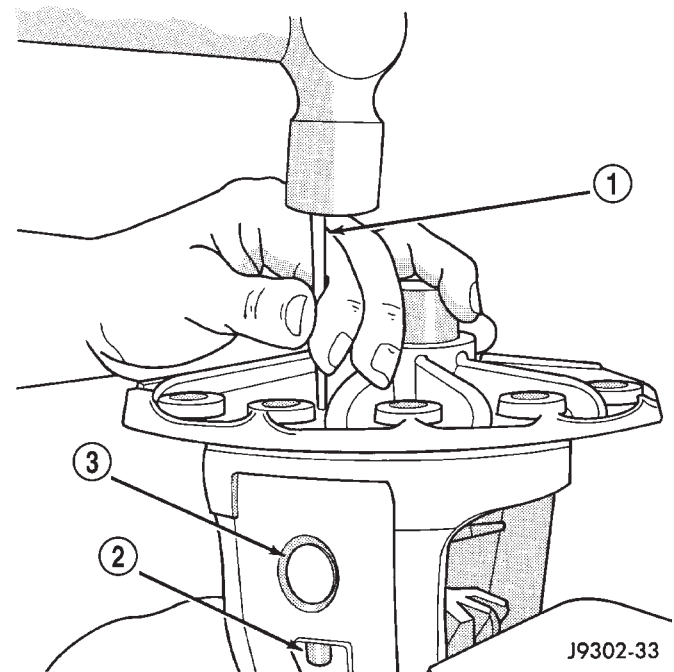
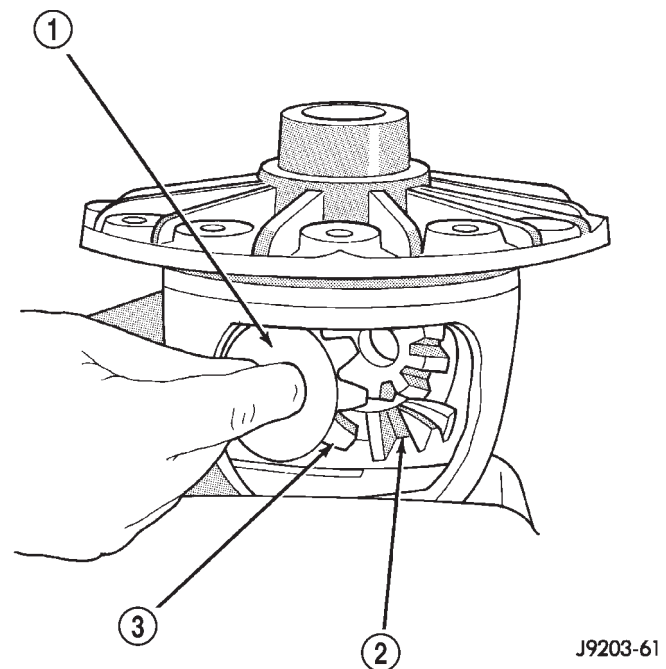

Fig. 67 Mate Shaft Roll Pin Removal
Fig. 68 Pinion Mate Gear Removal
(1) Remove the ring gear.
(2) Using a suitable roll pin punch, drive out the roll pin holding pinion gear mate shaft in the differential case (Fig. 67).
(3) Remove the pinion gear mate shaft from the differential case and the pinion mate gears.
(4) Rotate differential side gears and remove the pinion mate gears and thrust washers (Fig. 68).
(5) Remove the differential side gears and thrust washers.